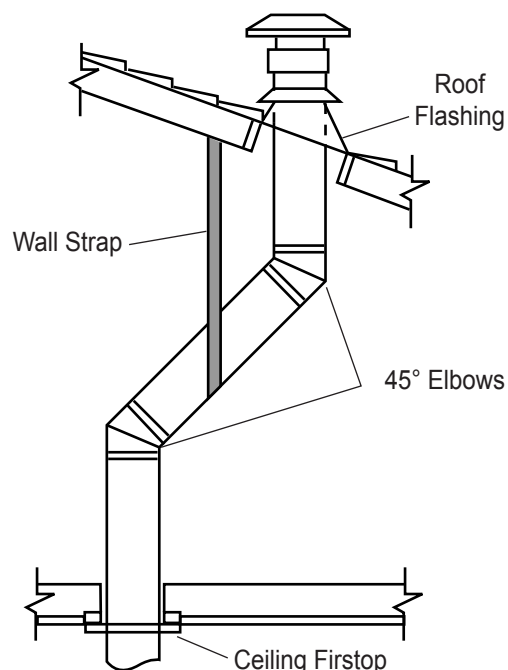

Figure 27 - Offset with Wall Strap and 45° Elbows
1. Determine the route your vertical venting will take. If ceiling joist, roof rafters or other framing will obstruct the venting system, consider an offset. See Figure 27 to avoid cutting load bearing members.